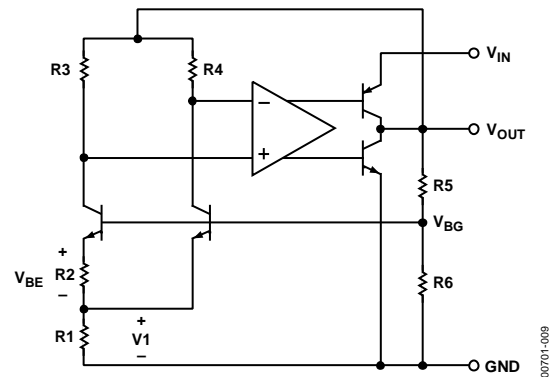

Figure 9. Simplified Schematic
The AD1582/AD1583/AD1584/AD1585 use the band gap concept to produce stable, low temperature coefficient voltage references suitable for high accuracy data acquisition components and systems. These parts of precision references use the underlying temperature characteristics of a silicon transistor's base emitter voltage in the forward-biased operating region. Under this condition, all such transistors have a $-2 \text{ mV}/^\circ\text{C}$ temperature coefficient (TC) and a V_{BE} that, when extrapolated to absolute zero, 0 K (with collector current proportional to absolute temperature), approximates the silicon band gap voltage. By summing a voltage that has an equal and opposite temperature coefficient of $2 \text{ mV}/^\circ\text{C}$ with the V_{BE} of a forward-biased transistor, an almost 0 TC reference can be developed. In the AD1582/AD1583/AD1584/AD1585 simplified circuit diagram shown in Figure 9, such a compensating voltage, V_1 , is derived by driving two transistors at different current densities and amplifying the resultant V_{BE} difference (ΔV_{BE} , which has a positive TC). The sum of V_{BE} and V_1 (V_{BG}) is then buffered and amplified to produce stable reference voltage outputs of 2.5 V, 3 V, 4.096 V, and 5 V.